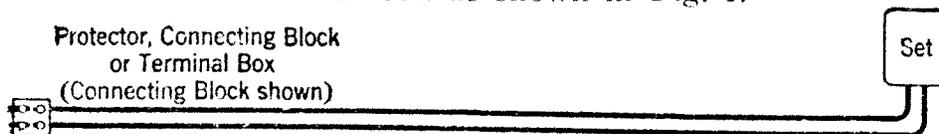

Fig. 1.
5.01 Use pair wire for wiring from protector, connecting block or terminal box as shown in Fig. 1.